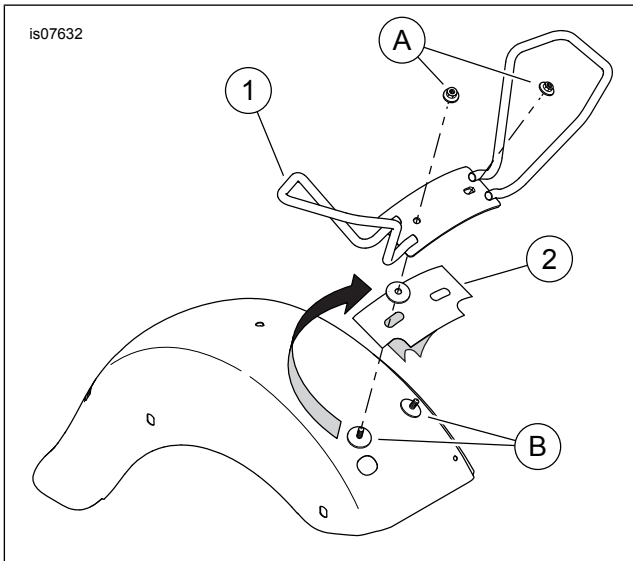

Figure 1. Service Parts, Passenger Grab Rail Kit
See Figure 1 and Table 1.
2. See Figure 1. Remove nuts (A) from stud plate. Save for installation.
3. Remove a plastic washer (B) from **one** of the studs. Pull the backing paper away from one end of the protective tape (2) as shown. Begin applying the tape to the rear fender, aligned with both studs but affixed only to the fender surrounding the first stud. See arrow. Install the plastic washer onto the stud **over** the protective tape.
5. Install the grab rail (1) onto the studs. Install nuts (A). Tighten to 6.8–10.8 N·m (5–8 ft-lbs).
6. Install nuts (A). Tighten both nuts to 6.8–10.8 N·m (5–8 ft-lbs).